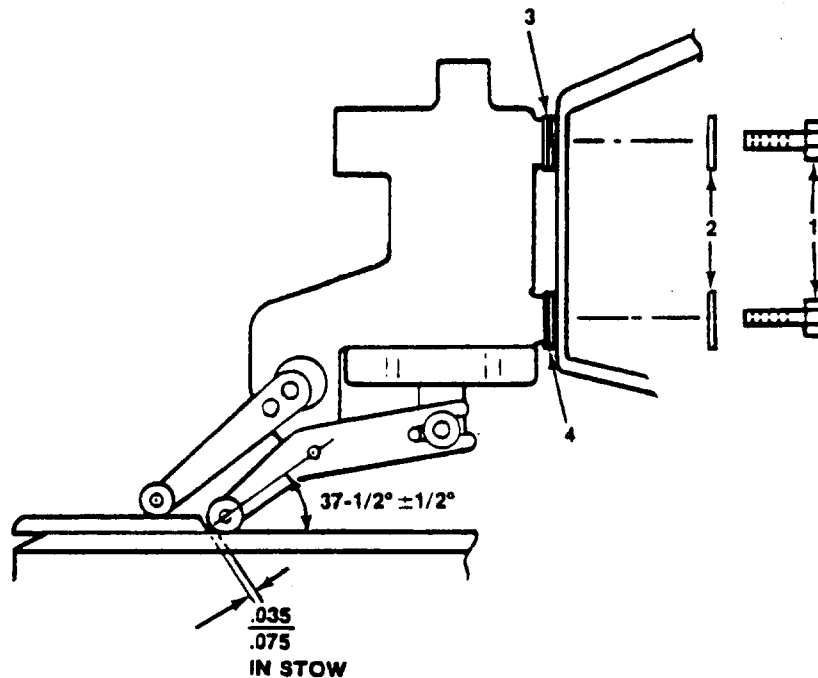

Figure 203 - Pneumatic Latch Positioning
- (5) Cycle the reverser through several cycles using the test box AST 2860 and external air. Observe pneumatic latch operation to ensure that the latch levers are fully retracted and retained in the unlatched position with the reverser deployed. On stow cycle ensure beam latch stop trips retaining lever to release latching lever and ensure dimensions of Figure 203 are satisfied with reverser fully stowed.
- (6) Install thrust reverser/aft nacelle on aircraft per Removal/Installation, 78-30-00.